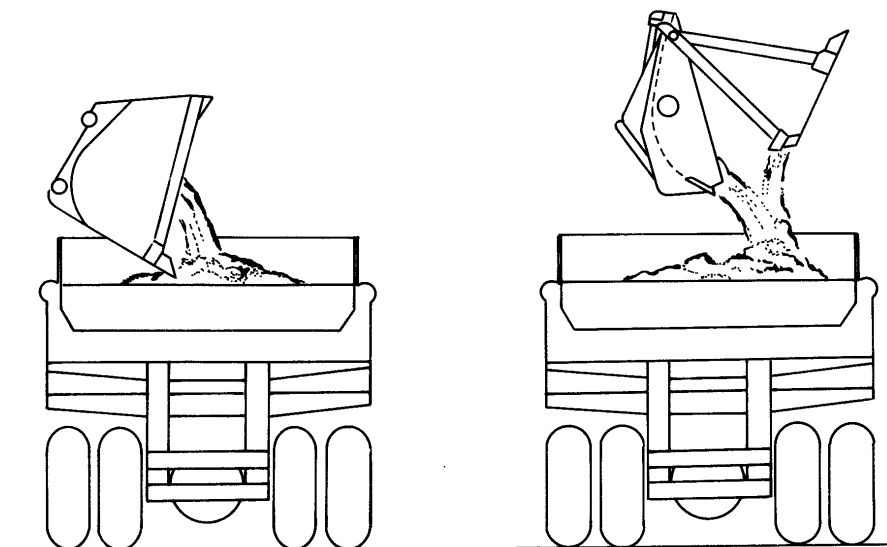

Fig. 4.48. Dumping Into Truck
7. Upon reaching the truck, raise the bucket high enough to clear the truck body. Reduce forward speed and dump the load slowly (Fig. 4.48). This will reduce the shock of weight transfer to the rear axle when the bucket is emptied. Shake the bucket and raise the boom to loosen dirt from within.